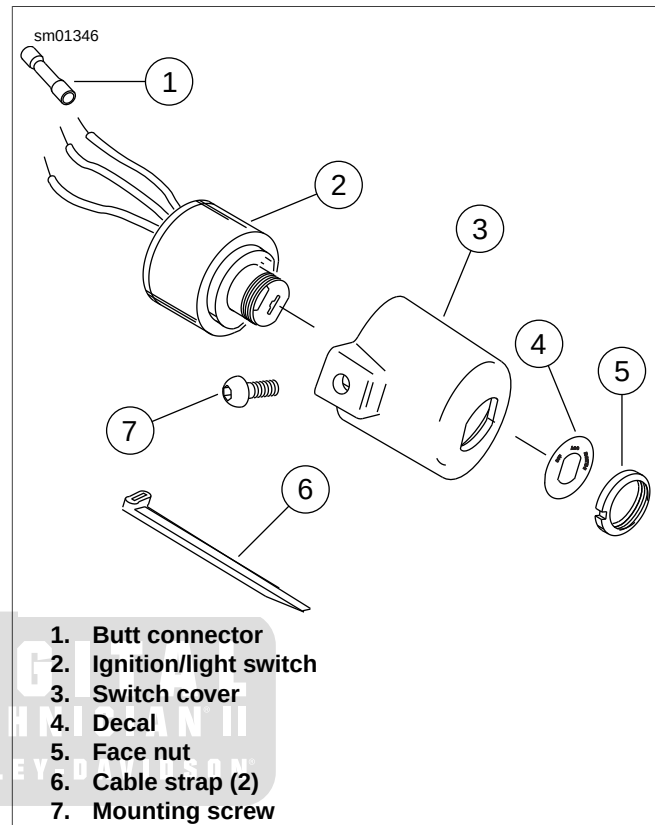

Figure 6-39. Ignition/Light Switch Assembly
3. See Figure 6-39. Remove ignition switch face nut (5).
6. Remove mounting screw (7). Remove switch cover (3). Remove switch (2) from switch cover (3).
4. See Figure 6-39. Insert ignition switch into hole of switch cover. The word "TOP" stamped on the switch body should face upward toward the lettering on the switch position decal. Loosely install face nut (5).
5. Install and tighten mounting screw (7) to 35-45 **in-lbs** (4.0-5.1 Nm).
6. Tighten face nut (5) to secure switch (2) within cover (3).
7. Using two **new** cable straps (6), secure main harness to frame backbone.